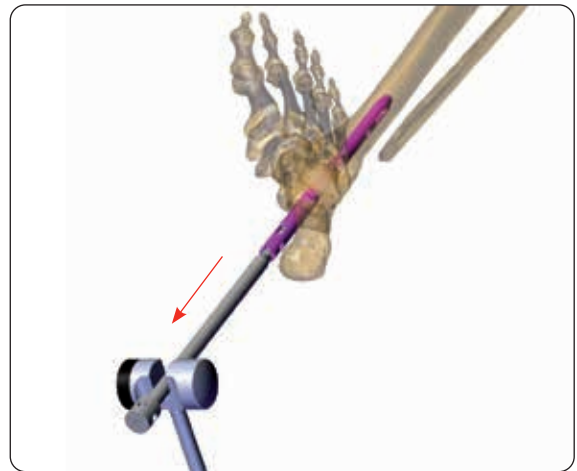

Fig. 21
4. Thread the Nail Removal Tool Thread into the Slotted Mallet Adaptor into the base of Nail. The Impactor should be used to appropriately tighten the Slotted Mallet Adaptor into the Nail. **(Figure 21)**
6. Remove Nail **(Figure 21)**